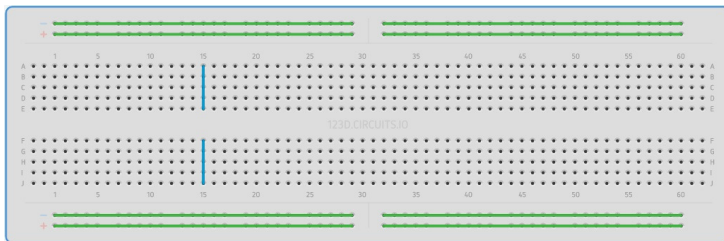

Fig. 2.1: Bread board connections
1. Plug the display to the breadboard in Fig. 2.1 and make the connections in Table 2.2. Henceforth, all 3.3V and GND connections will be made from the breadboard.